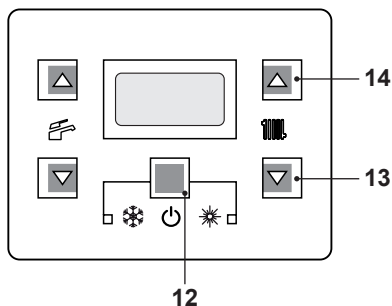
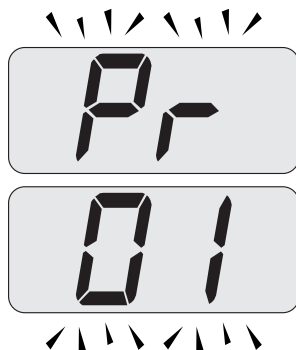

Fig. 10.16
Fig. 10.17
- Enter in "programming mode" by sequentially pressing and holding in keys, 12 - 13 and then 14 (Fig. 10.16) for 10 seconds until the letters **Pr** that alternate with code **01** are displayed on the LCD display, indicating that "parameter 01" (Fig. 10.17) has been activated.
- Press keys 13 and 14 (Fig. 10.16) at the same time until the LCD display displays the letters **LP** that alternate with the heating water temperature value (e.g. **45**), indicating the activation of the "flue sweep function" at minimum output (Fig. 10.18).
- By pressing 14 (Fig. 10.16) it is possible to change power in flue sweep mode: with the letters **hP** on the LCD display which alternate between the heated water temperature (i.e. **32**), we are in the "flue sweep function" at the minimum power during heating (Fig. 10.19).
- Press sequentially keys, 12 - 13 and then 14 (Fig. 10.16) and hold in for 10 seconds to exit the "flue sweep mode" and return to the previously set boiler status (Fig. 10.21).